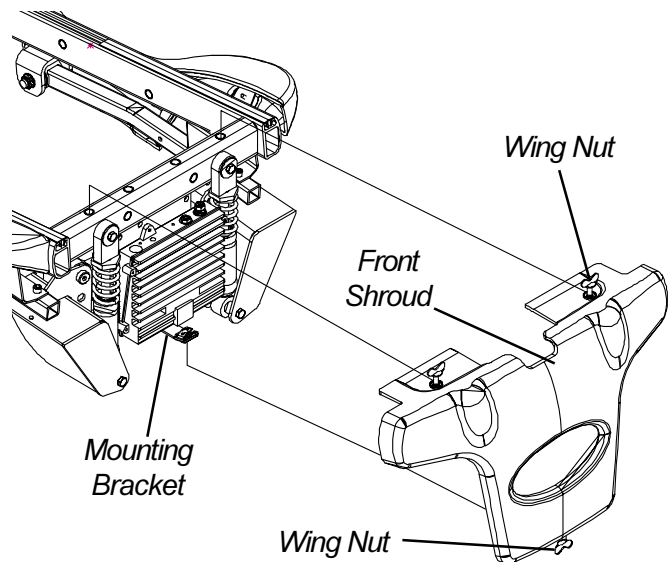

FIGURE 2 - REMOVING/INSTALLING FRONT SHROUD
**REMOVING/INSTALLING FRONT SHROUD (FIGURE 2)**
1. Turn the two (2) wing nuts on the TOP of the front shroud COUNTERCLOCKWISE.